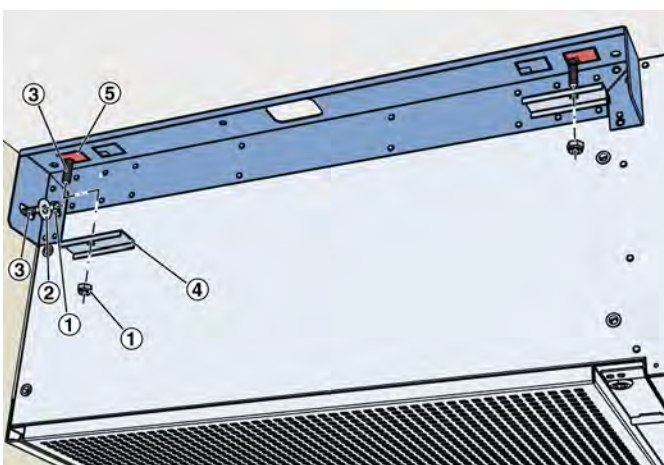

Fig. 19: Fix component 2 to the ceiling
Drill holes for heavy-duty anchors and blow out drill holes. Then break out the sheet metal part (Fig. 19 /5) at both ceiling fixing holes (movement space for aligning the unit).
Install heavy-duty anchors and screw in the threaded rods (Fig. 19 /3).
15.▶ Fix the unit with shims (Fig. 19 /4) and nuts (Fig. 19 /1) so that it can still be moved a little.